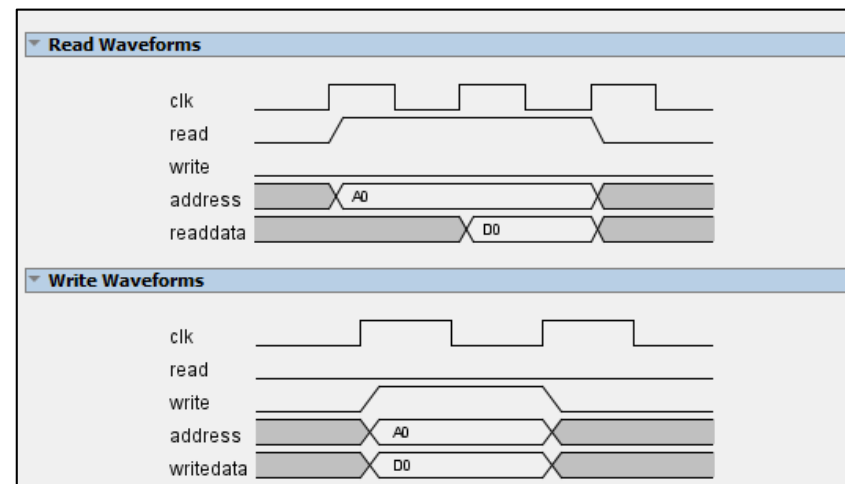

Figure 10 – Read / Writing Timing Waveforms
- The waveforms in Figure 10 demonstrate the required timing for both a read and write also from the HPS perspective.